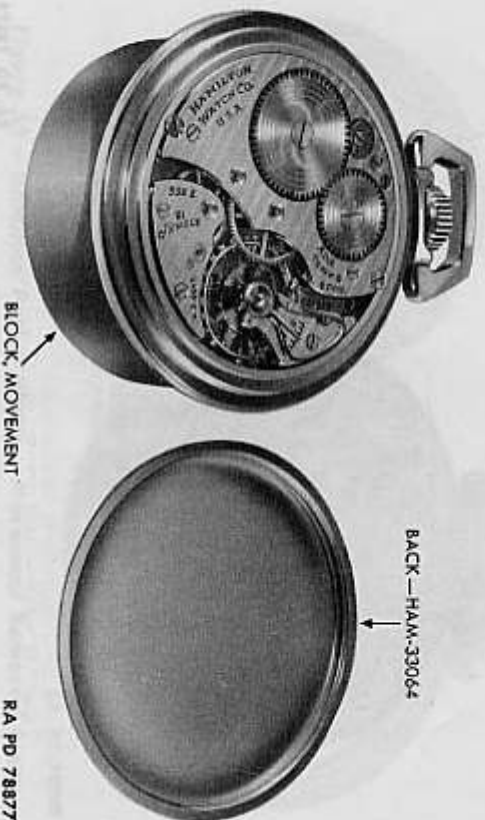

Figure 51 — Hamilton Pocket Watch — Back Removed
- d. **Remove Back Cover.** Remove the back cover by unscrewing it (fig. 51).